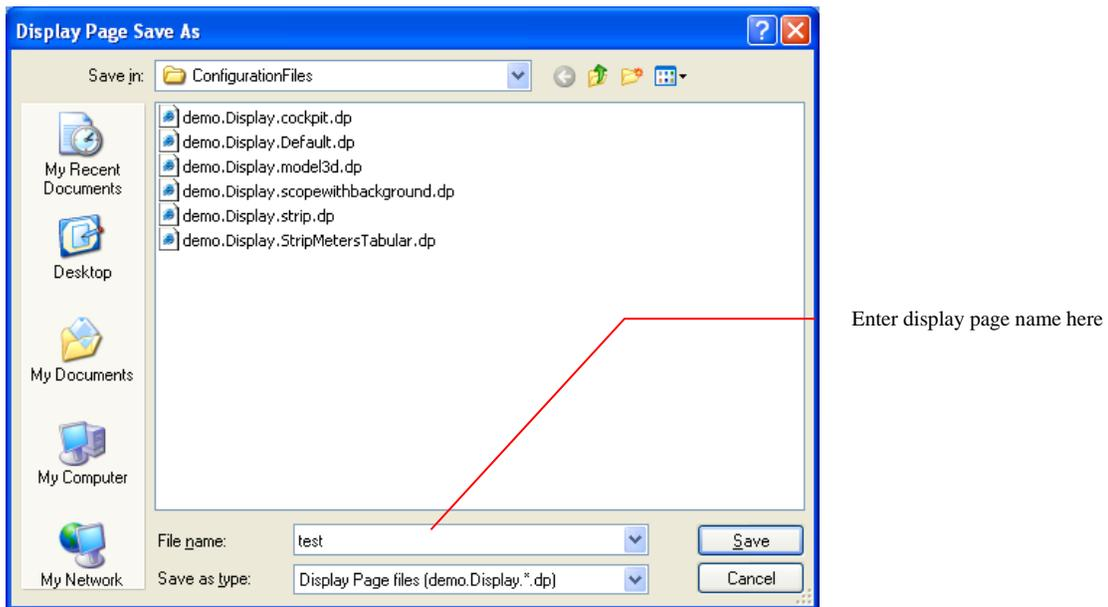

Figure 134 – Display Page Save As
1. After creating a display page by opening data displays, setting properties, and loading parameters, save the display page by selecting the *Displays\Save Display Page* menu option. The display page “save as” screen will be displayed. (See Figure 134 – Display Page Save As.)